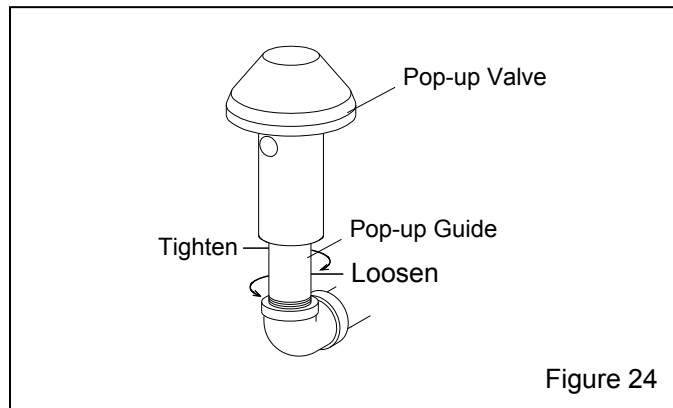

Figure 24
7.8 Pop-up Valve Replacement, Figure 24
7.8.4 Use a short pipe wrench to unscrew the pop-up valve guide as shown in Figure 24, by turning it counterclockwise. Remove the pop-up valve and guide from the machine.